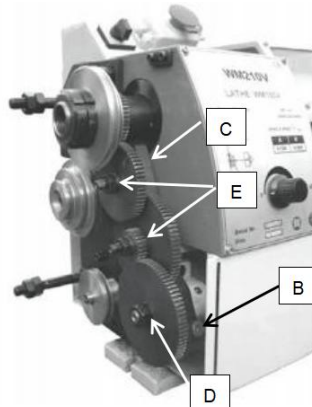

Fig. 19
3. Loosen the locking screw (B, Fig.19) on the quadrant.
4. Swing the quadrant (C, Fig. 19) to the right.
5. Unscrew the nut (D, Fig.29) from the leadscrew or the nuts (E, Fig.19) from the quadrant bolts in order to remove the change gears from the front.